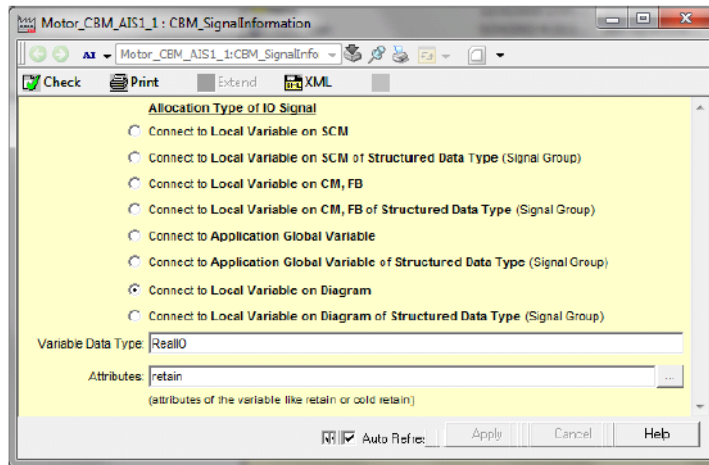

Figure 320. Signal Information
4. Add a CBM\_SignalInformation aspect and configure Allocation Type of IO Signal = Connect to Local Variable on Diagram of Structured Data Type, Variable Data Type = IO\_SAgitator, Attributes= retain as shown in Figure 320.